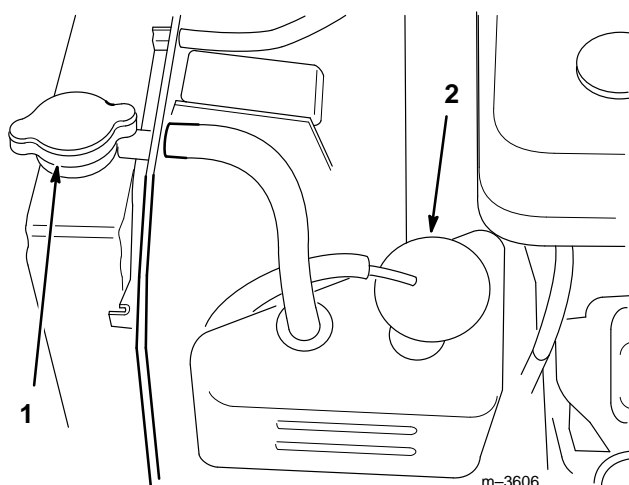

Figure 32
2. Remove the radiator cap and reserve tank cap (Fig. 32).